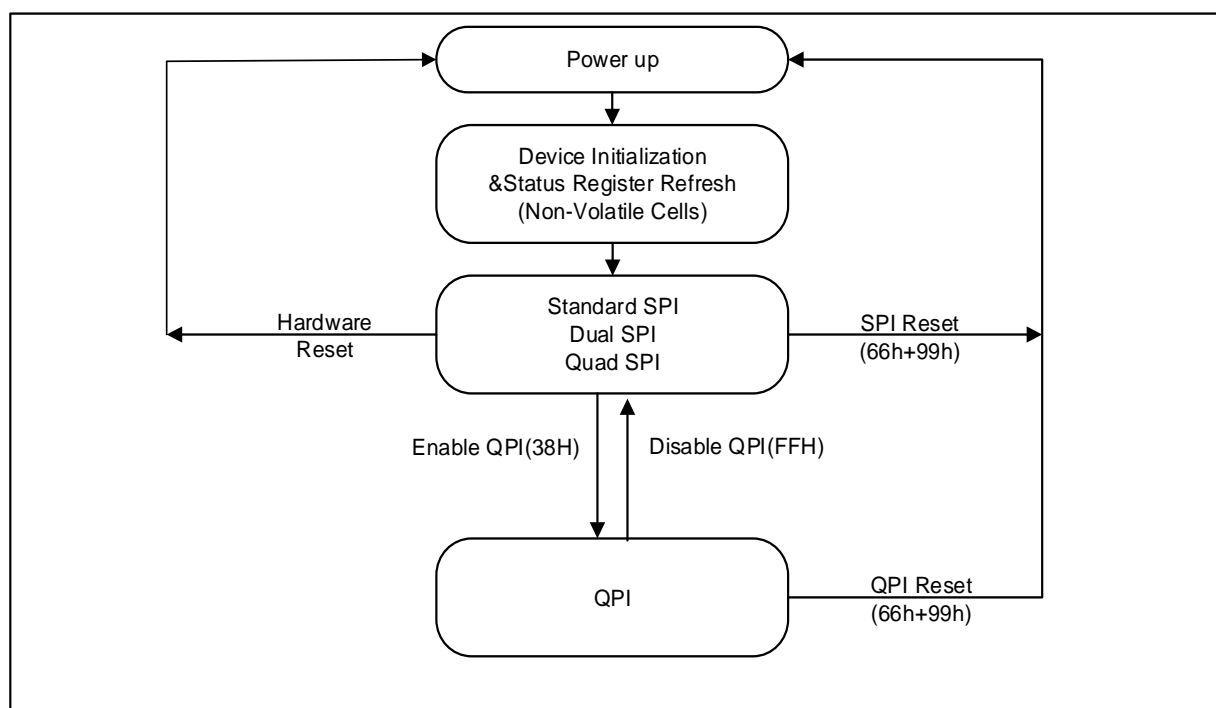

Figure 3. XM25QH64C Serial Flash Memory Operation Diagram
The XM25QH64C supports Quad Peripheral Interface (QPI) operations only when the device is switched from Standard/Dual/Quad SPI mode to QPI mode using the “Enter QPI (38h)” instruction. The typical SPI protocol requires that the byte-long instruction code being shifted into the device only via DI pin in eight serial clocks. The QPI mode utilizes all four IO pins to input the instruction code, thus only two serial clocks are required. This can significantly reduce the SPI instruction overhead and improve system performance in an XIP environment. Standard/Dual/Quad SPI mode and QPI mode are exclusive. Only one mode can be active at any given time. “Enter QPI (38h)” and “Exit QPI (FFh)” instructions are used to switch between these two modes. Upon power-up or after a software reset using “Reset (99h)” instruction, the default state of the device is Standard/Dual/Quad SPI mode. To enable QPI mode, the non-volatile Quad Enable bit (QE) in Status Register-2 is required to be set. When using QPI instructions, the DI and DO pins become bidirectional IO0 and IO1, and the /WP and /HOLD pins become IO2 and IO3 respectively. See Figure 3 for the device operation modes.